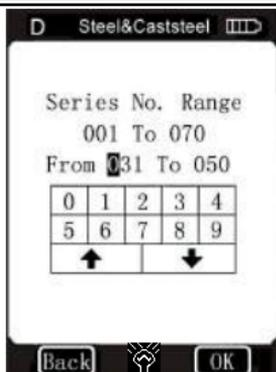

Fig 4.19
**Selected** item, you can select serial No. range of that group of data stored in memory. This menu is shown in Fig 4.19.